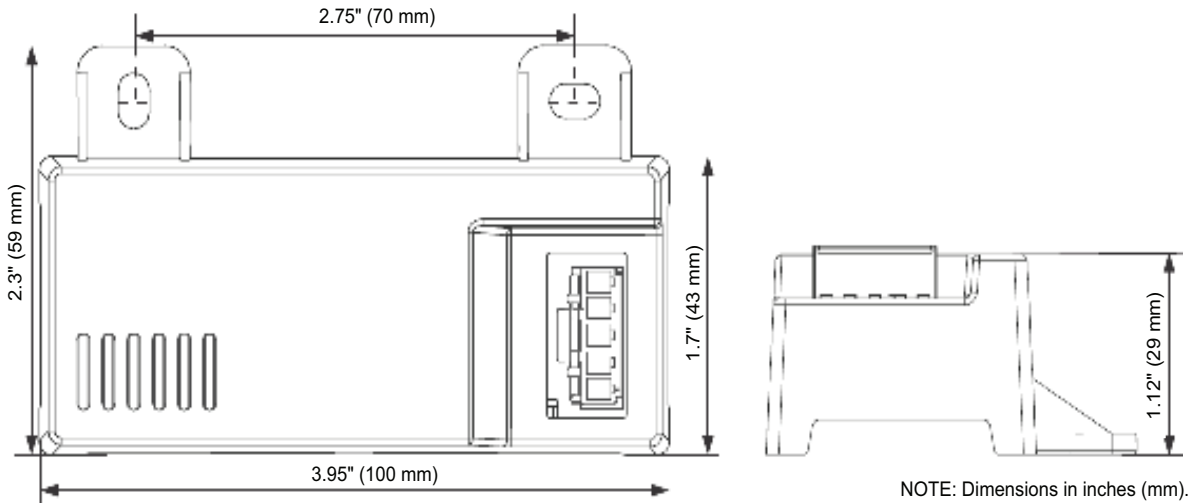
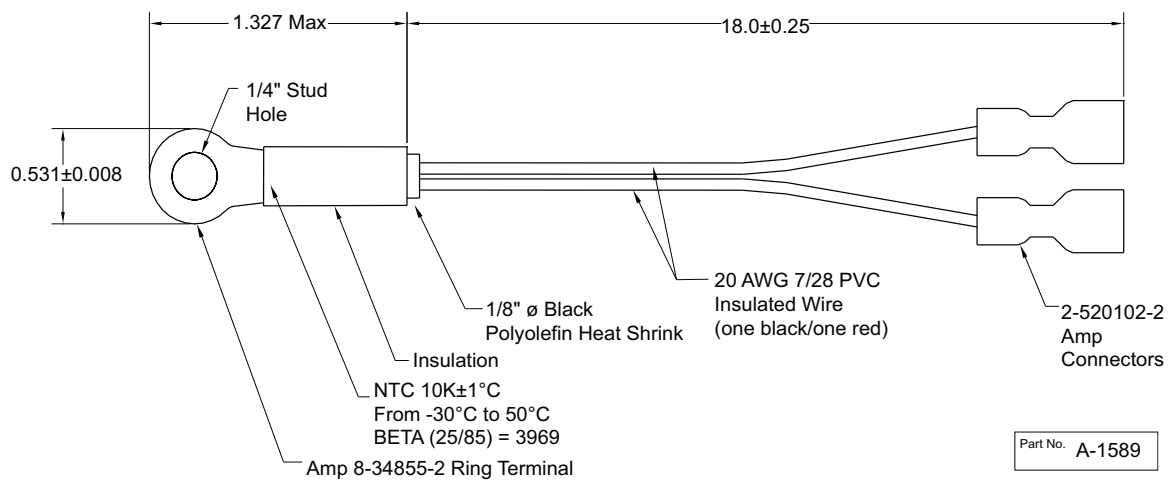
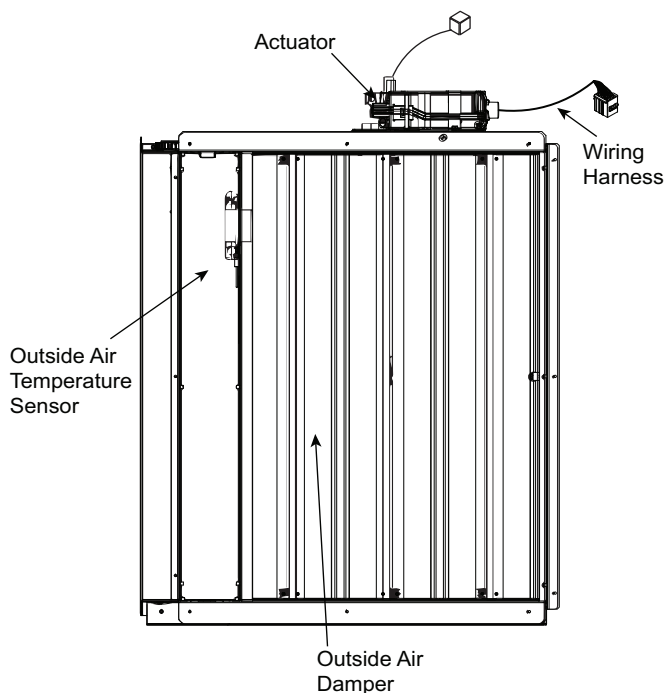

Fig. 80 – HH57LW001 Dimensional, Connection and Switching Information
Fig. 81 – HH79NZ039 Dry Bulb and Mixed Air Sensor Wiring
Fig. 82 – EconomizerONE Component Locations (CRECOMZR108A00 Shown)
When using the HH57LW001 enthalpy sensor (see Fig. 80) for outside air changeover, the existing HH79NZ039 dry bulb sensor (see Fig. 81) must be removed. The enthalpy sensor will be mounted in the same location as the dry bulb sensor (see Fig. 82). When the enthalpy sensor's OA (Outside Air) temperature, enthalpy, and dew point are below their respective setpoints, the outside air can be used for free cooling. When any of these are above the setpoint, free cooling will not be available. Enthalpy setpoints are configurable and create an enthalpy boundary according to the user's input. For additional details, see Fig. 83-84 and Table 30.
The optional enthalpy control sensor (P/N: HH57LW001) communicates with the POL224 economizer controller using the 5-wire harness, 48TC005213. The HH57LW001 sensor can be used as a single outside air enthalpy, a differential return enthalpy, or a differential return temperature sensor. Refer to the base unit control wiring diagrams found earlier in this book to wire the HH57LW001 enthalpy sensor for each option. Use Fig. 80 and Table 32 on page 68 to locate the wiring terminals for each enthalpy control sensor.
Economizers are shipped standard with an HH79NZ039 outside air dry bulb sensor (see Fig. 81). System default setting (high temp limit) is 63°F (17°C) and has a range of 48°F to 80°F (9°C to 27°C). Sensor is factory installed on economizer.
If installing the optional HH57LW001 enthalpy sensor, the HH79NZ039 dry bulb outside air sensor must first be removed. Wire sensor to harness 48TC005213 and the (5) wires from the harness to the EconomizerONE harness in the return air chamber. Harness 48TC005213 has a 5-pin plug that connects directly to the HH57LW001 enthalpy sensor. Refer to the base unit control wiring diagrams earlier in this book for wiring connections. Refer to Fig. 80 and Table 32.